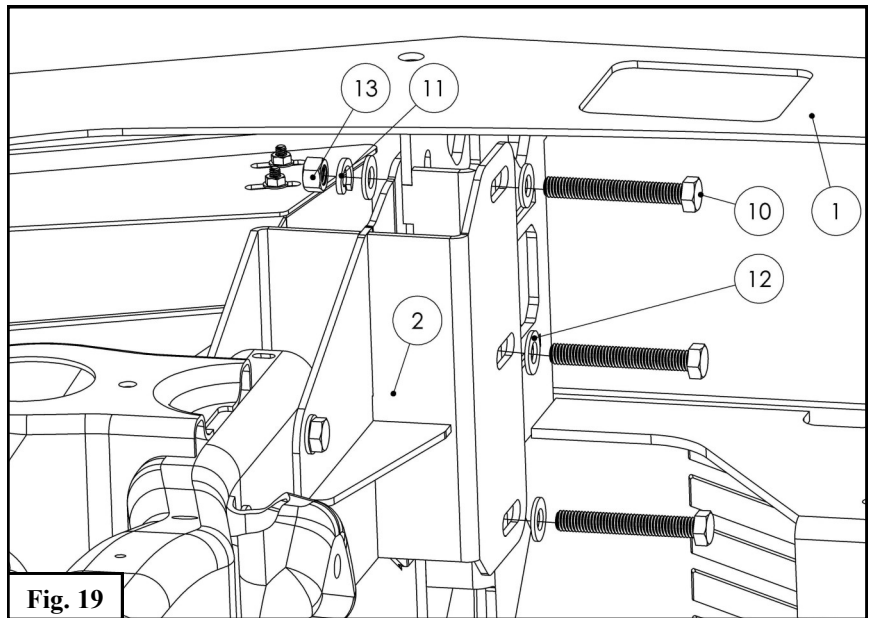

Fig. 19
7. Loosely Install bumper assembly (1) using 1/2" hardware. **Note:** Driver side bracket shown.
8. Align and adjust previously installed brackets and bumper to desired fit. Torque hardware: 1/4" to 8 ft-lbs, 1/2" to 57 ft-lbs, and M12 to 50-55 ft-lbs. See **Figure 19**.